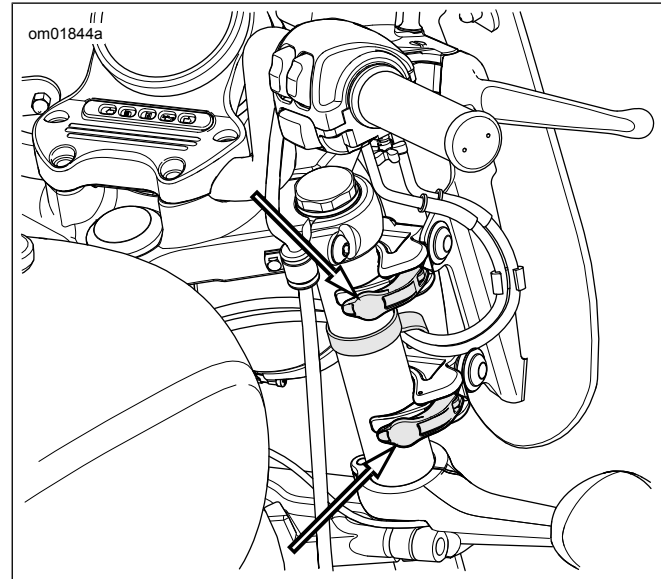

Figure 36. Windshield Clamp Levers
1. See Figure 36. Support the windshield and open the clamp levers.